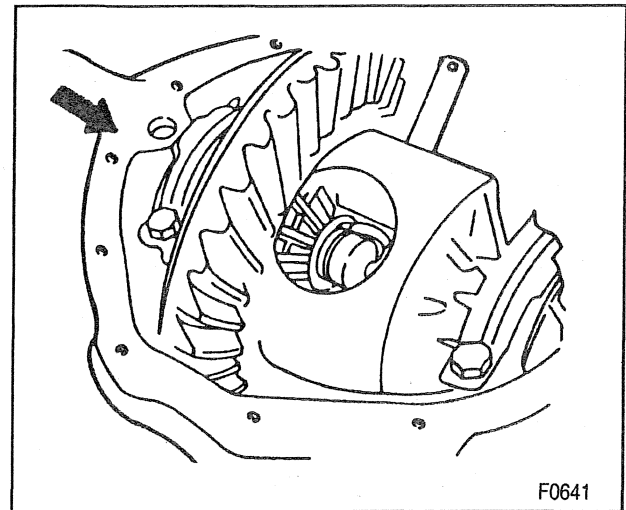

Figure 10—Pushing the Axle Shaft Inward
- Push the flange of the axle shaft towards the differential. Do not force or hammer the shaft to move the axle shaft (figure 10).